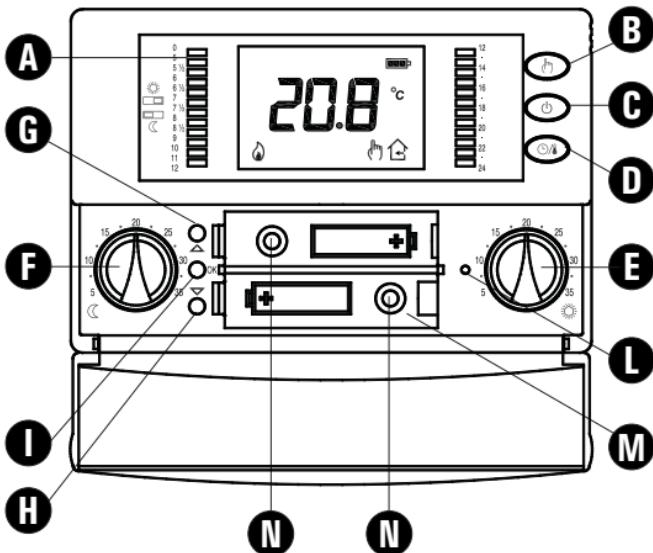

Fig. 5
5. Insert the batteries in the battery compartment (M in Fig. 5); see paragraph ' HOW TO INSERT/REPLACE THE BATTERIES '.